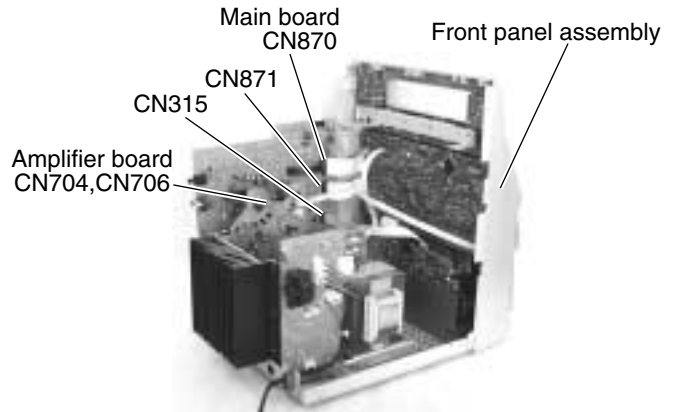

Fig.16
(Refer to Fig.16)
■ Removing the main board (See Fig.16 and 17)